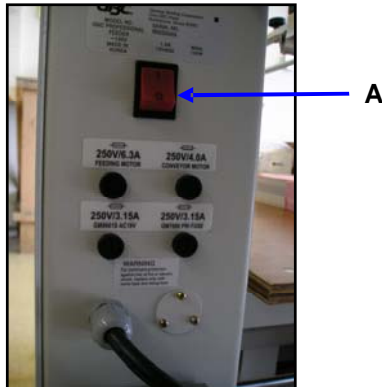

Figure 1
**FEEDER ON/OFF SWITCH (Figure 1)**